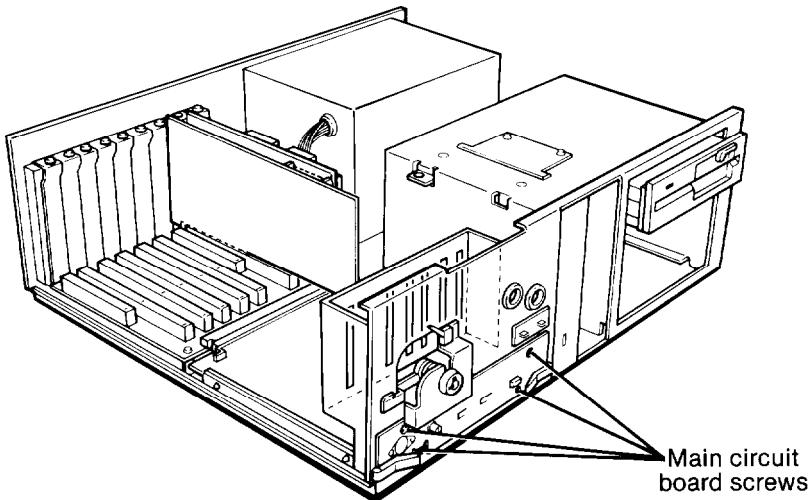

Figure A-5. Removing *circuit board screws*
2. With the front of the computer facing you, remove the four screws that secure the circuit board to the computer, as shown in Figure A-5.